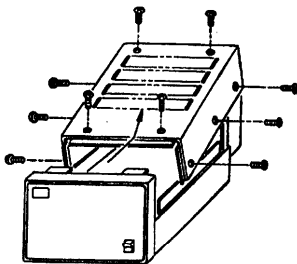

Figure 6.1 Removing the Upper Cover
- (1) Disconnect the AC power cable from the primary power line.
- (2) Remove the upper cover. Refer to Figure 6.1.